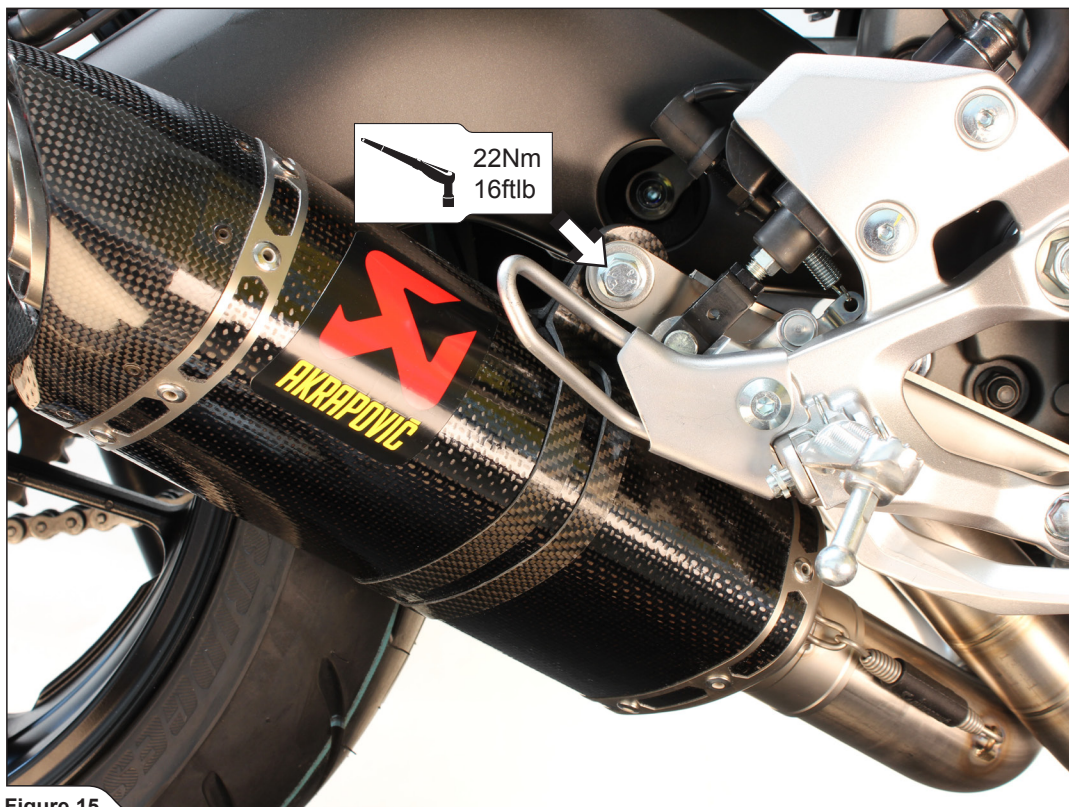

Figure 15
7. Align the muffler in respect to the swing arm and tighten the clamp's bolt to the specified torque (**Figure 15**).